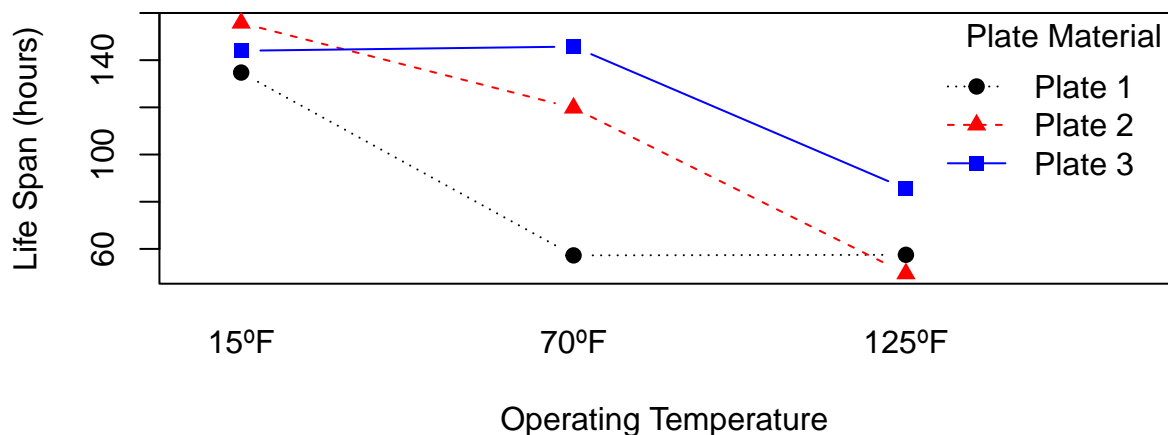

Figure 4: Interaction Plot using base R
**Example Write up** From Figure 4, we can see that there is some interaction between the operating temperature and plate material. For example, going from 15°F to 70°F, produced a drop in life span for materials one and two but for plate three there is a slight increase in life span. As we move from room temperature (70°F) to the high of 125°F, this time plate material one appears to hold steady in life span while the other two materials experience drops in life span.